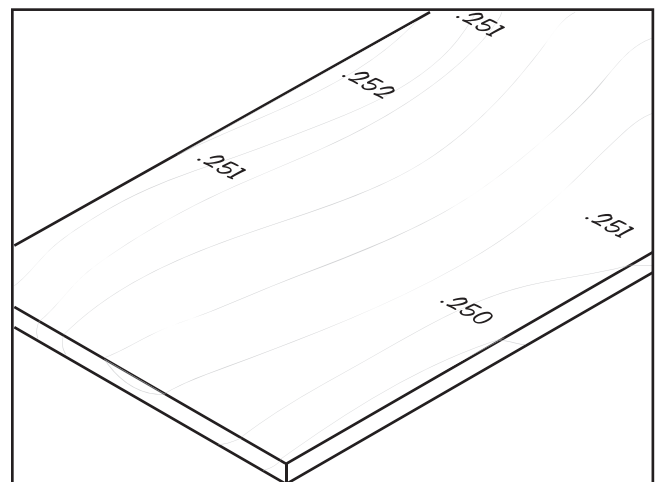

Figure 38. Test board with measurements.
2. Using a dial caliper, measure the thickness of the cut piece at all four corners and in even locations along the edges of the stock. As you take these measurements, write them directly on the stock, near the location where you took the measurement (see **Figure 38**).